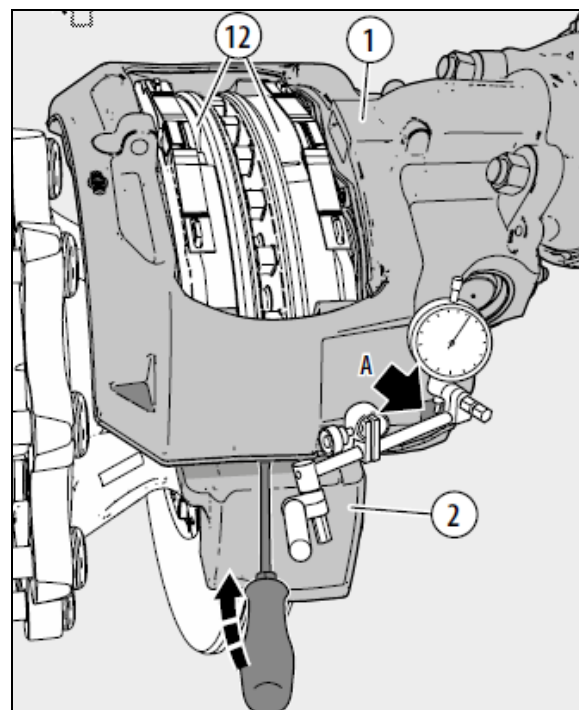

FIGURE 43: OBTAINING MAXIMUM VALUE OF BEARING CLEARANCE
3. Fasten a magnetic dial-gage holder to the carrier (2) on the floating bearing side of the caliper (1). Use the casting tag on the caliper (1) as the measuring point - see arrows A (see Figure 43).
5. Place a suitable tool (e.g. screwdriver with at least 200 mm in length) in a central position between carrier (2) and caliper (1) and lever them in opposite directions (using normal hand-force).
The floating bearing side with guide pin (4c, 4d or 4e) is sealed with inner boot (9c, 9d or 9e) and with cover (68c 68d or 68e). All variants (9), (10) and (68) must be free of any signs of damage (see Figure 43).